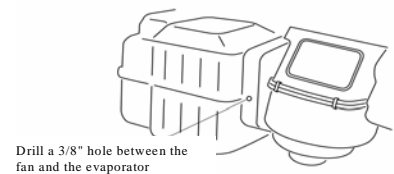

Fig.3: Drill 3/8" Hole
- i. Drill a 1/2" hole in the plenum chamber between the blower motor and the evaporator (fig. 3). (CAUTION: Keep drill clear of evaporator core and fan).